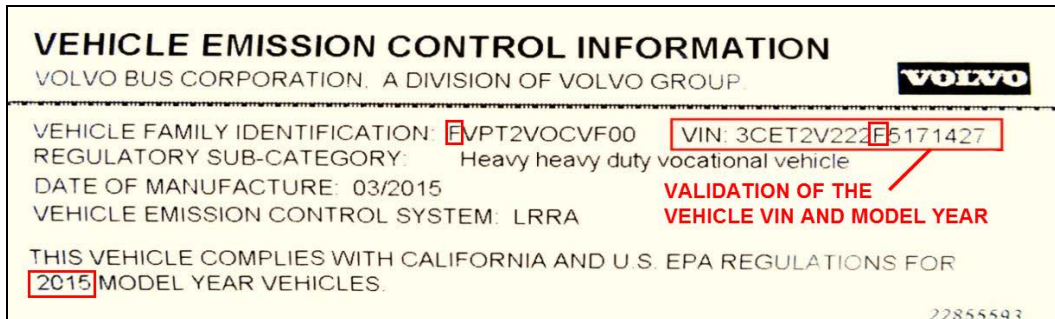

FIG.2 VALIDATE VEHICLE VIN BEFORE FINAL INSTALLATION (2015 VEHICLE SHOWN)
- Vehicle VIN must match VIN on the new decal (see Fig 2).